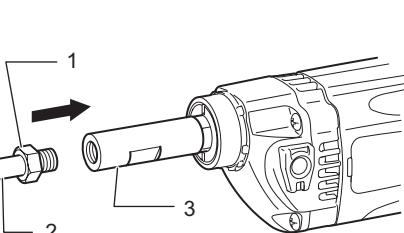

Fig.4
- Fig.4: 1. Hex nut 2. Shaft 3. Shaft holder